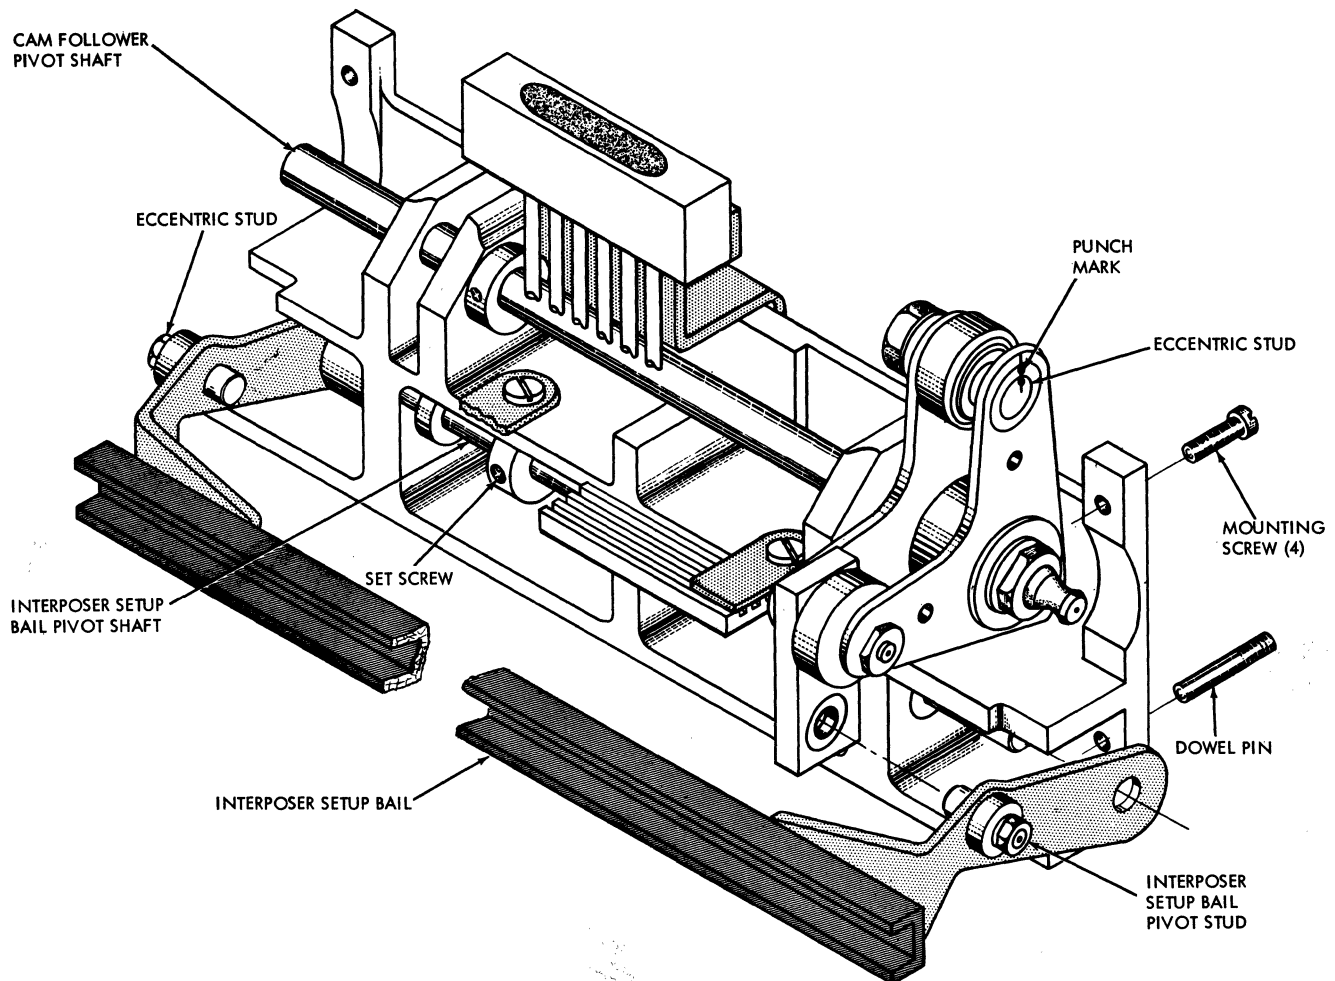

Figure 3-32. Cam Follower Assembly
1. Four collars on pivot shaft should be tight against inner race of pivot bearings. See Figure 3-32.
adjustment of the follower bearings impossible. See Figure 3-32.
3. Remove two dowel pins in cam follower mounting plate. See Figure 3-32.
4. Remove four mounting screws. See Figure 3-32.
- Remove punch unit from machine. Refer to Figure 3-32 when performing Steps 2 through 8.